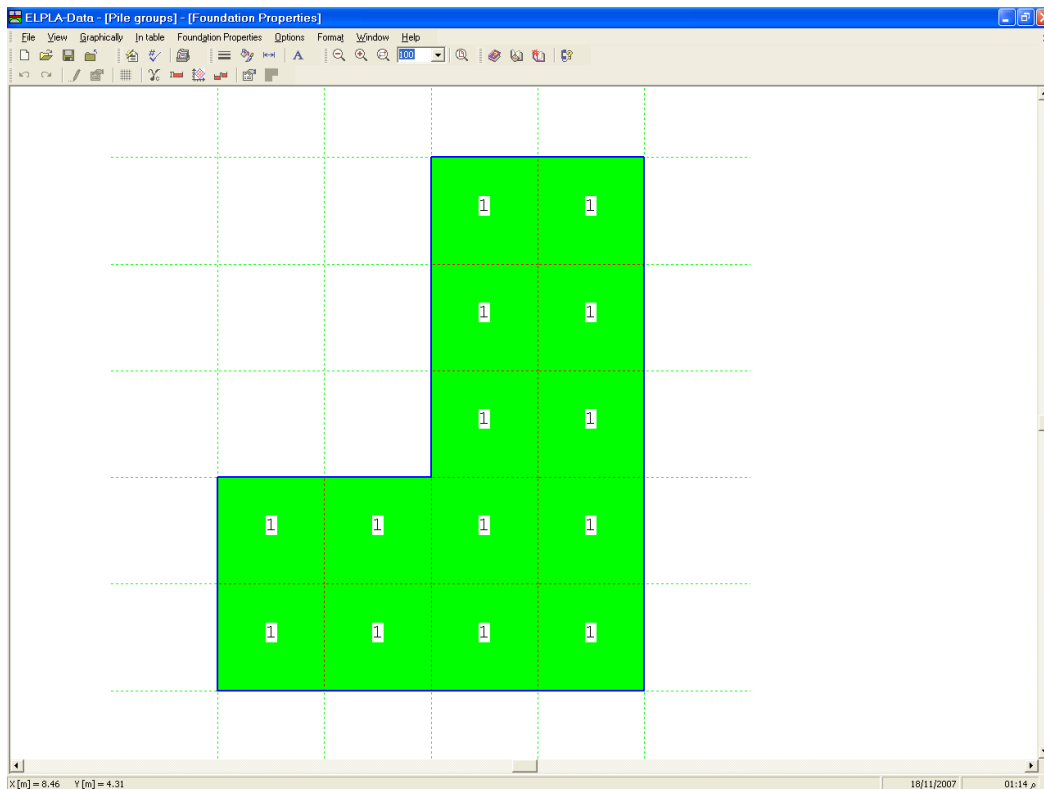
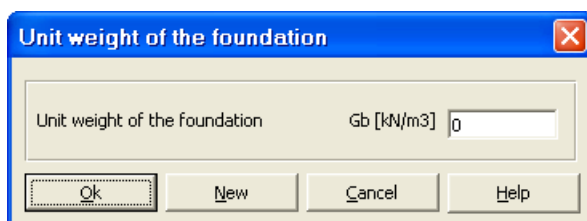

Figure 11-29 "Foundation properties" embedded program
Figure 11-30 "Unit weight of the foundation" dialog box
To define the foundation properties, choose "Foundation properties" command from "Data" menu of *ELPLA-Data*. The following embedded program in Figure 11-29 appears with default foundation properties. In the current example, it is required to define only the unit weight of the foundation. Any other data corresponding to foundation properties in the program menus are not required. Therefore, the user can take these data from the default foundation properties.
- Choose "Unit weight of the foundation" command from "Foundation properties" menu in the window of Figure 11-29. The following dialog box in Figure 11-30 with a default unit weight of 25 [kN/m³] appears. Type 0 to neglect the foundation weight in the edit box "Unit weight of the foundation"
- Choose "Save foundation properties" command from "File" menu in Figure 11-29 to save the foundation properties